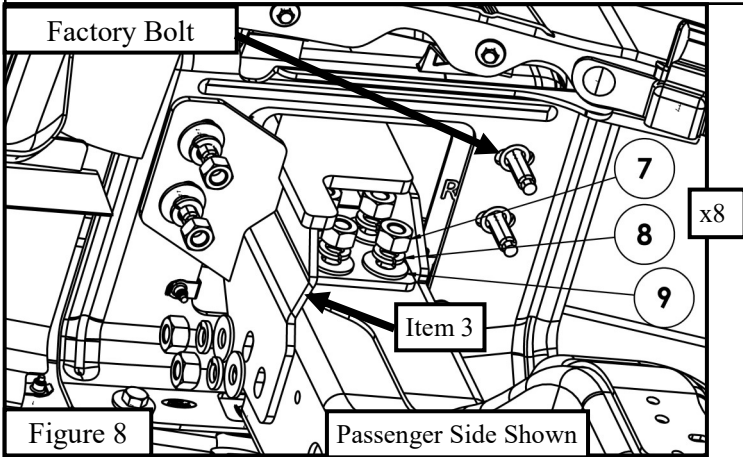

Figure 8
5. Remove bumper by removing (4) bolts on both sides of the vehicle near the front tires and make sure to disconnect any electrical wires. **See Figures 8 and 9.**
9. Locate (1) Lower Support Bracket (Item 19) and insert through the newly trimmed slots and loosely secure onto vehicle frame using the factory hardware. See Figure 8.